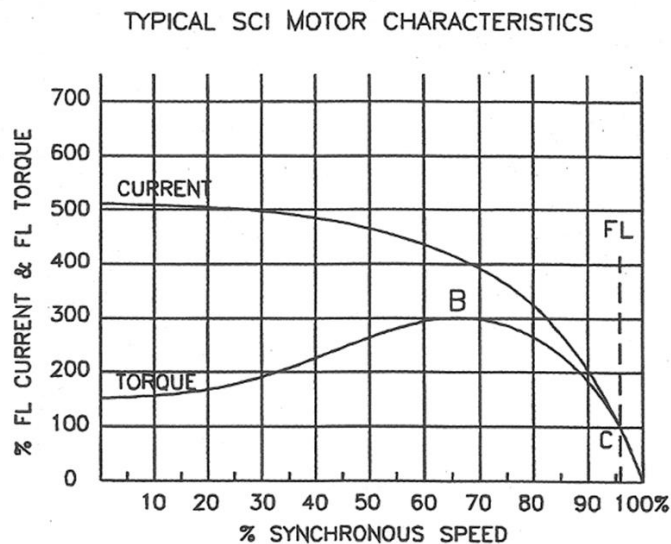

Figure 6 – Typical three phase induction motor characteristics.
40. The operating characteristics of a particular type induction motor can be shown on a graph known as a characteristic curve or performance curve. A characteristic curve for a typical general purpose squirrel cage induction motor is shown in Figure 6.
41. Figure 6 shows the full load current (FLC) and full load torque (FLT) on the +Y axis, and SYNCHRONOUS speed on the +X axis.
Typical characteristics are; about 150% full load torque on starting and about 5 times full load current on starting. See Figure 6 for torque/current characteristics. Common uses are: